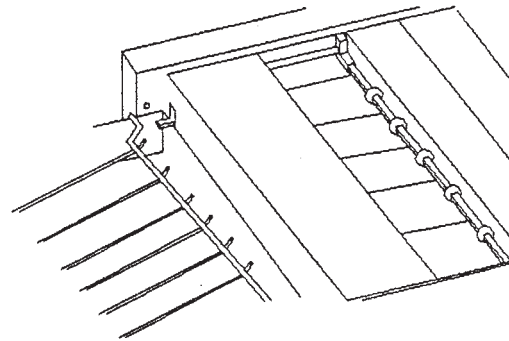

FIG 3
4. To install the Jam Detector, insert one end of it into the hole in the Burster. Then flex the piece just enough to where the other end will slip in to the hole in the other side of the Burster. The Jam Detector will now come to rest on the Jam Detection Switch and the support on the other side. (Fig. 3)